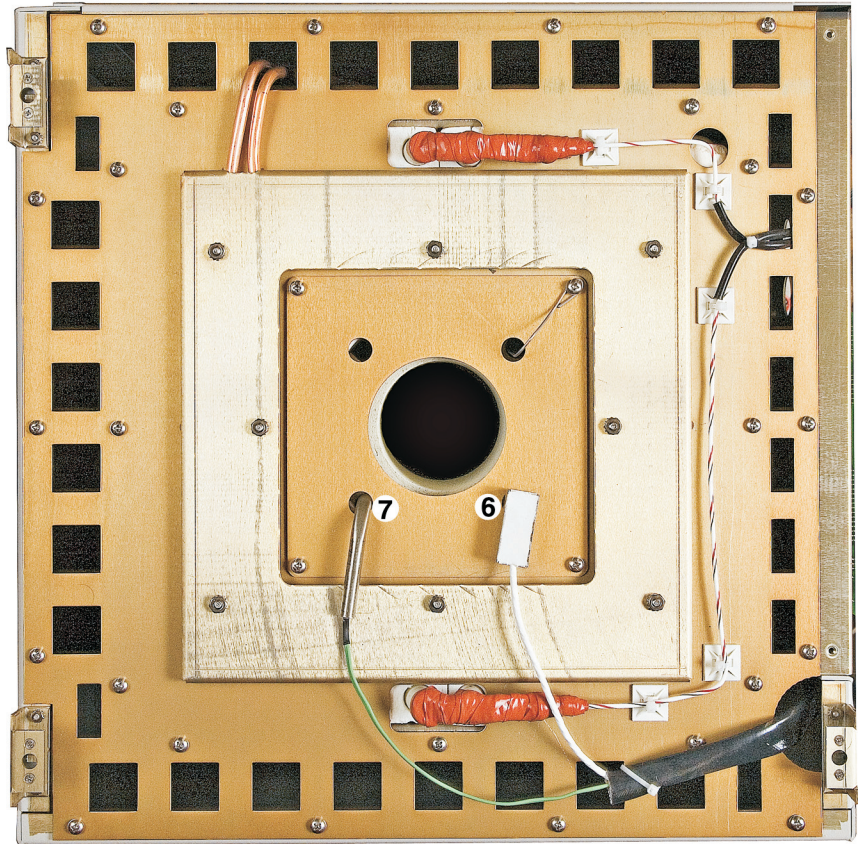
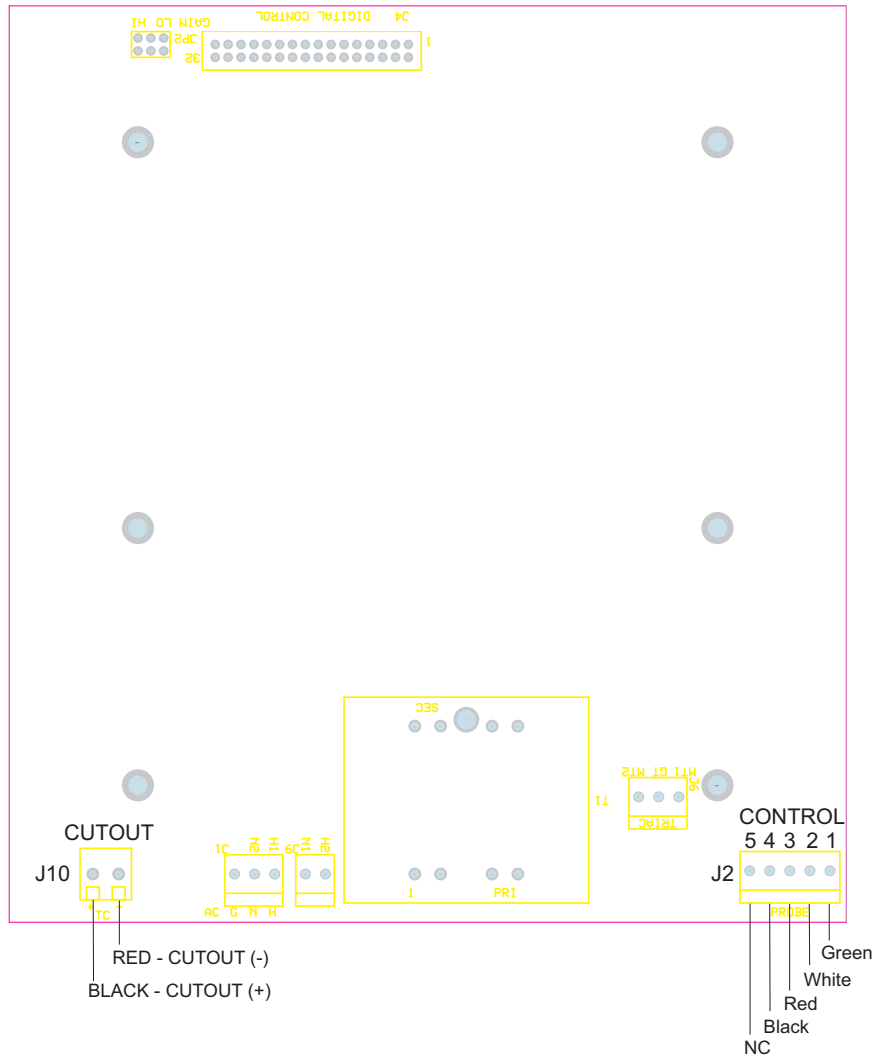

Figure 2 HTPRT control probe and cutout thermocouple wire routing and heat pipe ground wire placement..
Figure 3 Attachment of thermocouples
1. Remove the top cover (1) of the furnace. Remove the metal retaining plate (2) by detaching the four screws holding it in. Remove the top support block (3) and any packing material (used for shipping) from the central furnace core. Leave the bottom support block (4) in place at the bottom of the core.
2. Locate the heat pipe (5) and the heat pipe installation tool. Use cotton gloves to handle the heat pipe. Finger prints will cause corrosion of the Inconel at high temperatures. The installation tool has a handle with heavy gauge wire hooks which fit into the tabs on the top of the furnace. Remove any packing materials from the heat pipe. (*Any finger oils must be removed with reagent grade alcohol before installation.*) The heat pipe has a protrusion on the top between the installation tabs which served as a filling port. This port must be rotated appropriately to fit the matching notch on the top support block. Note the orientation of the notch on the top support block and be sure to rotate the heat pipe accordingly. The larger notches in the top support block are toward the rear of the furnace. There is a grounding wire attached to the top flange of the heat pipe. **BE CAREFUL** that it does not damage the ceramic heaters as the heat pipe is lowered into the furnace.
4. Once the heat pipe is in place, position the top support block (3) over the heat pipe. Be careful to position the notch onto the heat pipe, the flanges of the heat pipe (5) into the slits in the support block and the grounding wire through the right rear access notch (when facing the furnace) in the support block. If necessary, use a knife to cut pieces of the ceramic blanket material provided to center and firmly locate the top support block in place.
5. Re-attach the metal retaining plate (2) using the four screws. The ground wire from the heat pipe must be routed through the right rear access hole in the plate and attached to the closest screw using two star washers and a screw. Make sure that the ground wire is securely attached to the furnace chassis. Check the ground continuity to ensure that the ground wire is intact and the heat pipe (5) is grounded. Insure that the wire routing for the Control (6) and Cutout (7) probe is as shown in Figure 2.
6. Reinstall the control HTPRT (6) and the cutout thermocouple (7) as shown in Figure 2 on page 13. They must be inserted far enough to clear the top cover. They should also be centered in the air space between the element and the heat pipe. Small pieces of the fiber ceramic material can be used to fix their positions. The wires from the probes must be properly routed and connected to the controller as shown in Figure 2. Remove the cover over the electronics panel. Route the probe wires through the hole in the top of the furnace (at the front right of the furnace when facing the furnace) and down to the access hole into the electronics compartment (at the center left when facing the electronics panel). Connect the probe wires to the controller. The labels on the probes and the controller must be used to correctly complete the wiring. The thermocouple wires should be firmly attached using the screw-down terminals on the controller printed circuit board. The HPRT connection must be firmly seated on the controller. Make sure that the leads from the thermocouples are directed away from the central well of the furnace, and will not be pinched or interfere with other parts. See Figure 3